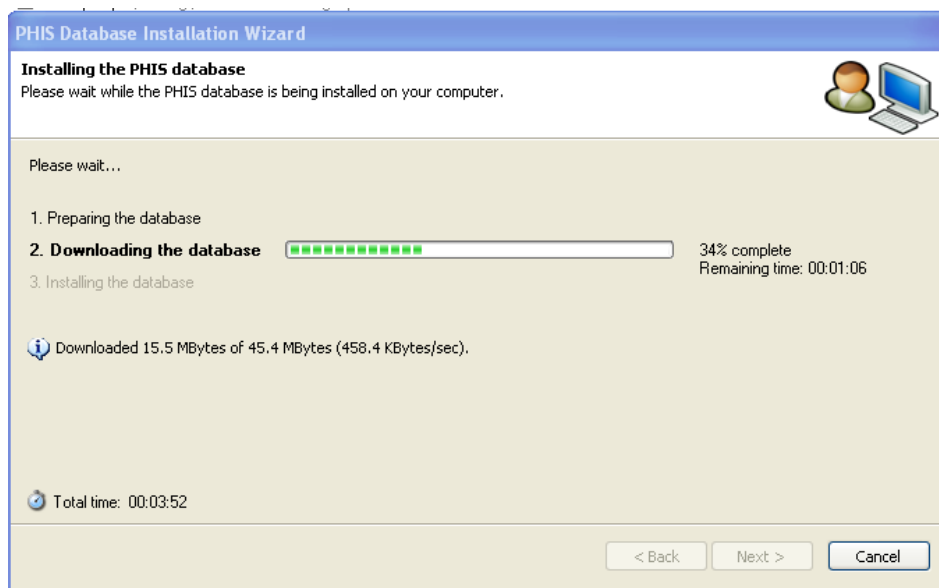

Figure 8: PHIS Database Installation Wizard
3. Next, PHIS checks for your database. If necessary, the PHIS Data Installation Wizard (see Figure 8: PHIS Database Installation Wizard) will download and update your database. Follow the instructions to complete the process.